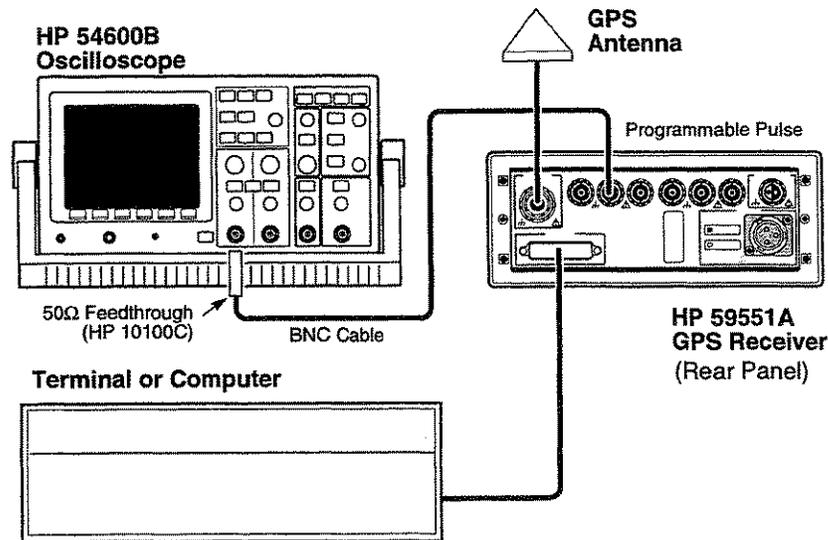

Figure 5. HP 59551A Programmable Pulse Operational Verification Setup
- 13 Connect the oscilloscope to the rear-panel **Programmable Pulse** output as shown in Figure 5.